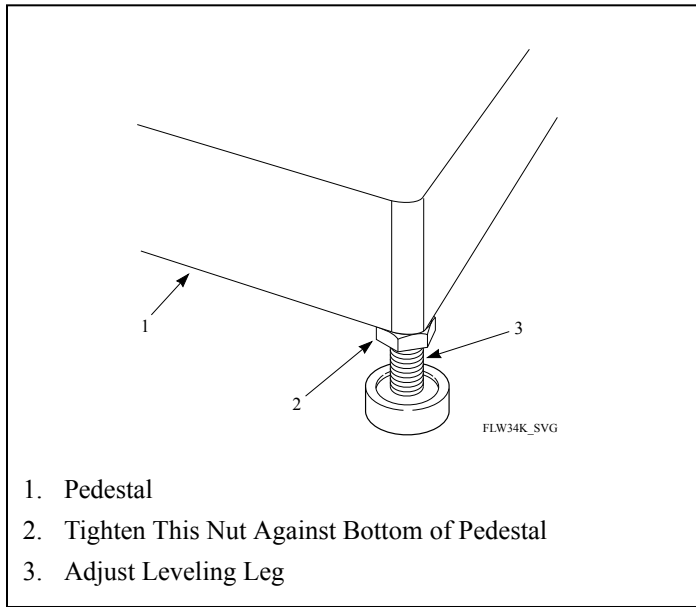

Figure 3
screwing leveling legs into or out of pedestal. Refer to *Figure 3*. Turn leg clockwise to lift or counterclockwise to lower.
9. Once pedestal is level, tighten the nuts installed in step 8 up against bottom of pedestal. Refer to *Figure 3*. Make sure to hold leg when tightening nut.
6. Level pedestal from front to back and from side to side by screwing leveling legs into or out of pedestal. Refer to *Figure 3*. Turn leg clockwise to lift or counterclockwise to lower.
7. Once pedestal is level, tighten the nuts installed in step 6 up against bottom of pedestal. Refer to *Figure 3*. Make sure to hold leg when tightening nut.
10. Level pedestal from front to back and from side to side by screwing leveling legs into or out of pedestal. Refer to *Figure 3*. Turn leg clockwise to lift or counterclockwise to lower.
11. Once pedestal is level, tighten the nuts installed in step 7 up against bottom of pedestal. Refer to *Figure 3*. Make sure to hold leg when tightening nut.
9. Level pedestal from front to back and from side to side by screwing leveling legs into or out of pedestal. Refer to *Figure 3*. Turn leg clockwise to lift or counterclockwise to lower.
10. Once pedestal is level, tighten the nuts installed in step 6 up against bottom of pedestal. Refer to *Figure 3*. Make sure to hold leg when tightening nut.